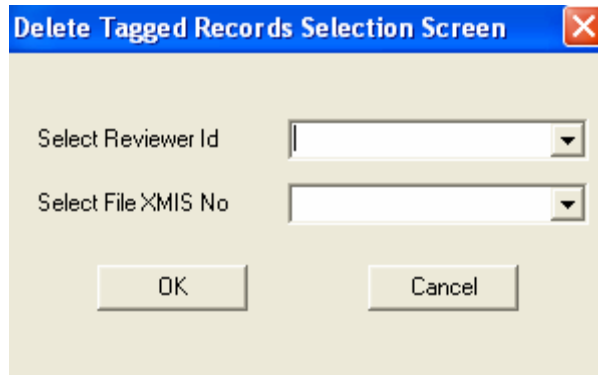

Figure 119: Record Selection Screen /All Records
1. First choice is to leave both drop down lists blank and click the ok button, this will select all the records tagged for deletion, and then users can delete all records at once or one at a time. This screen is shown in Figure 119: Record Selection Screen /All Records.